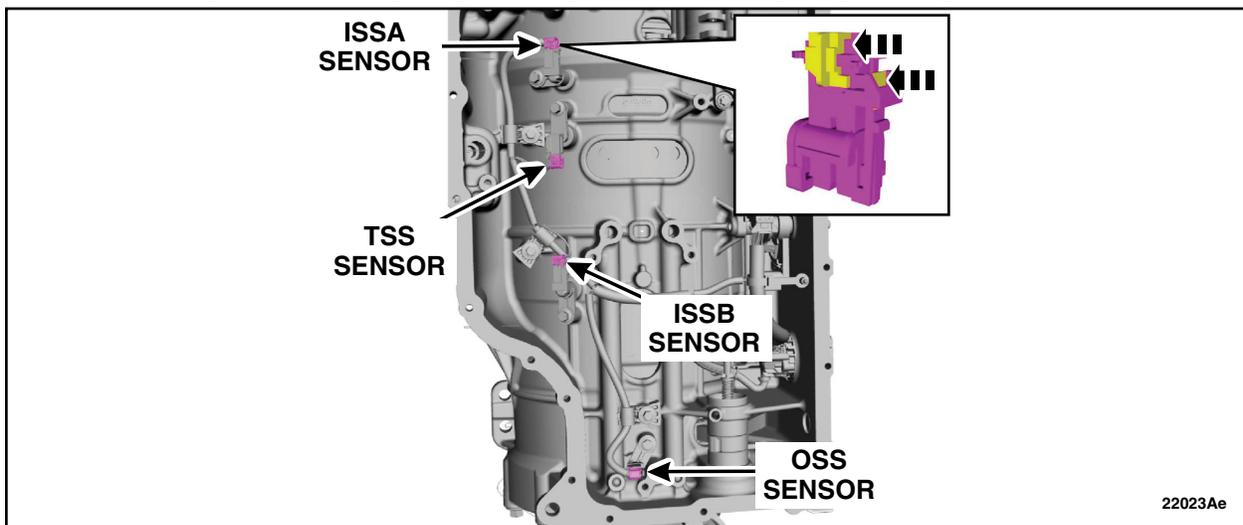

FIGURE 6
9. Unlock and disconnect the Intermediate Speed Sensor A (ISSA), Turbine Speed Sensor (TSS), Intermediate Speed Sensor B (ISSB) and Output Shaft Sensor (OSS). See Figure 6.